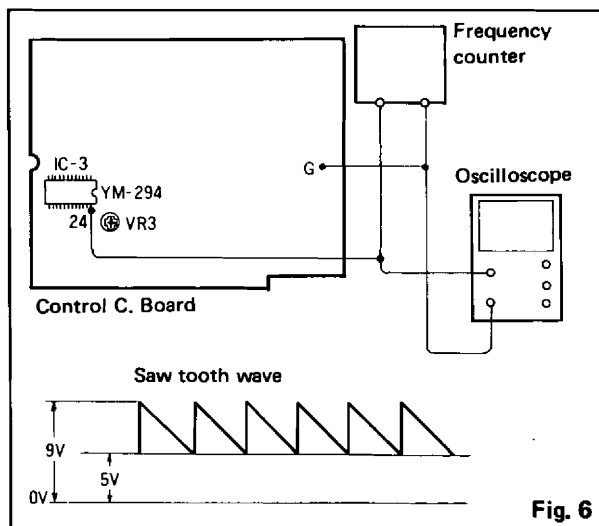

Fig. 6
1. As in Fig. 6, connect a frequency counter and an oscilloscope to the 24th pin of IC3 in order to confirm that the frequency is at  $128\text{Hz} \pm 1\text{Hz}$ , and that the waveform is a saw tooth wave (regard these as standard conditions).